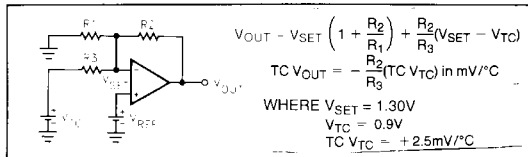

Figure 5. Maxim's Generation of Negative Temperature Coefficients.
**Note 4:** This output has a positive temperature coefficient. Using it in combination with the inverting input of the regulator at VSET, a negative coefficient results in the output voltage. See Figure 5 for details. Pin will not source current.
The  $V_{TC}$  pin has a positive temperature coefficient of about +2.5mV. When connected via a resistor to the inverting summing junction of the error amplifier (the  $V_{SET}$  terminal), this positive coefficient results in a controllable negative temperature coefficient at the output of the ICL7663. Figure 5 shows a simplified diagram of the ICL7663 and the pertinent equations for setting both the output voltage and the output tempo.